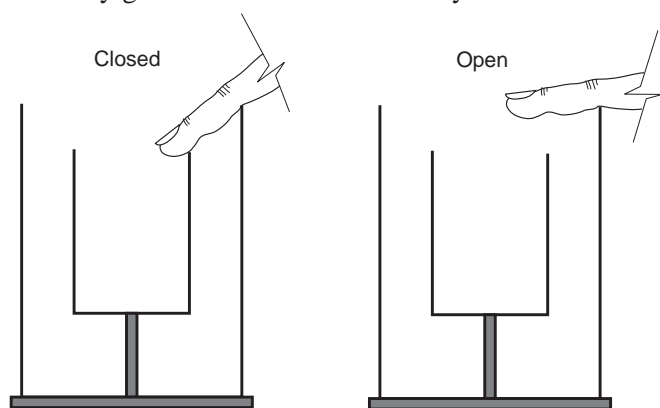

Figure 2
- ② Ground the ice pail (i.e., connect the inner pail to the shield) by touching the inner pail and the outer shield at the same time with the finger of one hand. (See Figure 2) While conducting the experiment it may be convenient to continually rest one hand on the upper edge of the shield. This also grounds the experimenter, providing the electrometer is connected to both ground and shield and it allows the ice pail to be easily grounded whenever necessary.